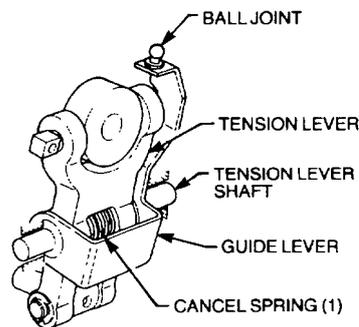

Figure 29 Guide Lever and Cancel Spring (1) Location
67. The guide lever is also mounted on the tension lever shaft and is concentric with the tension lever. Both levers are held together by the force of the cancel spring (1) as shown in Figure 29. A ball joint is welded to the top of the guide lever.